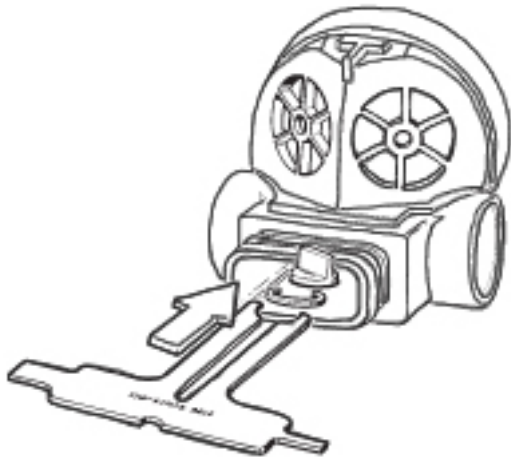

Figure 34 - Circlip installation
4. While holding the anti-venturi vane in place, turn the box bottom upside down with the open side facing away. Lay the circlip (16) inside the mouthpiece boss, with its flat side facing up. Rotate the circlip as needed to position the open end directly behind the stem of the vane.
5. Place the tines of the Micra pre-adjustment tool (PN 100168) squarely behind the circlip, and press the circlip evenly onto the groove of the vane stem until it audibly snaps into place (see Figure 34). Examine closely to ensure that the circlip is seated evenly over the stem of the vane, inside the groove.